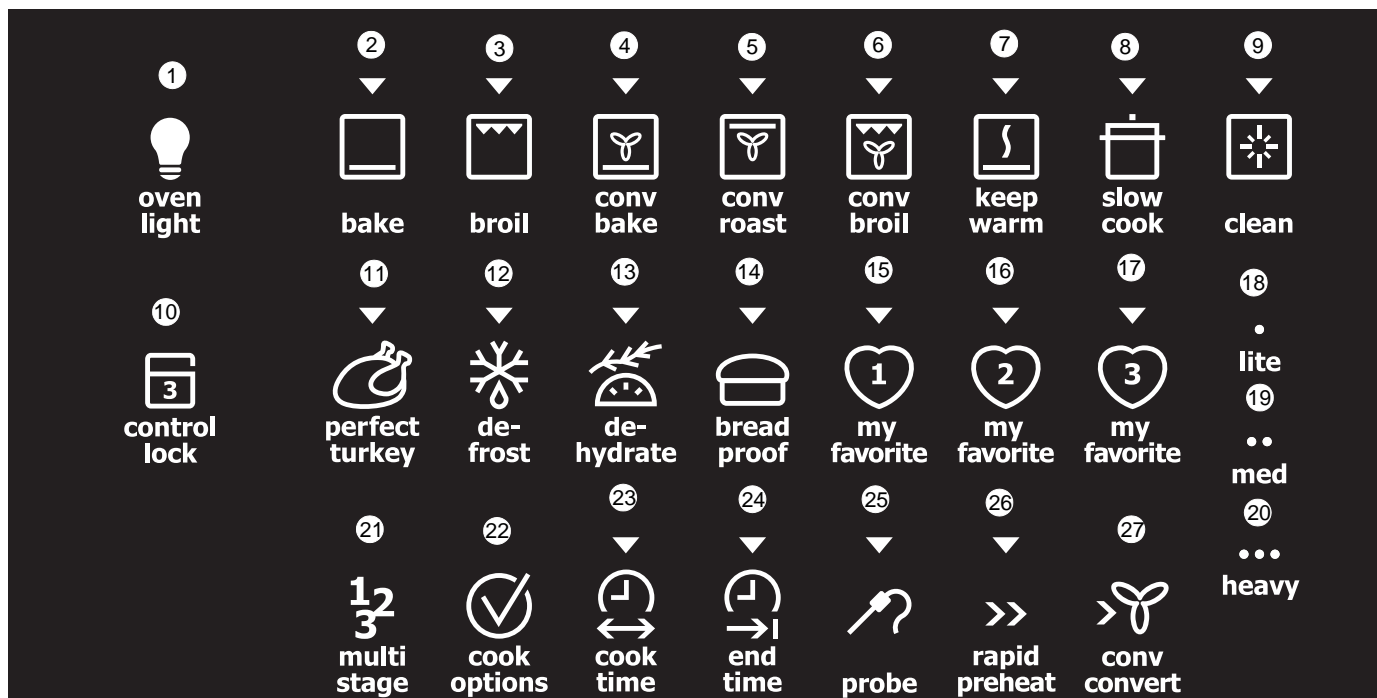

Figure 21: Replacing the oven rack
3. Using both hands, grasp the upper and lower portions of the glide rack (Figure 21).
1. Grasp both upper and lower portions of glide rack (Figure 21).